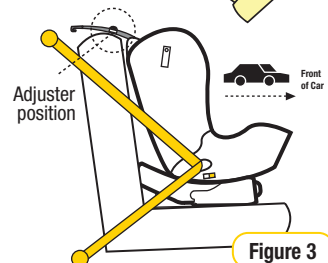

Figure 3
**Step 2:** Continue to shorten until you have reached the desired position at the rear of the restraint (see Figure 3).